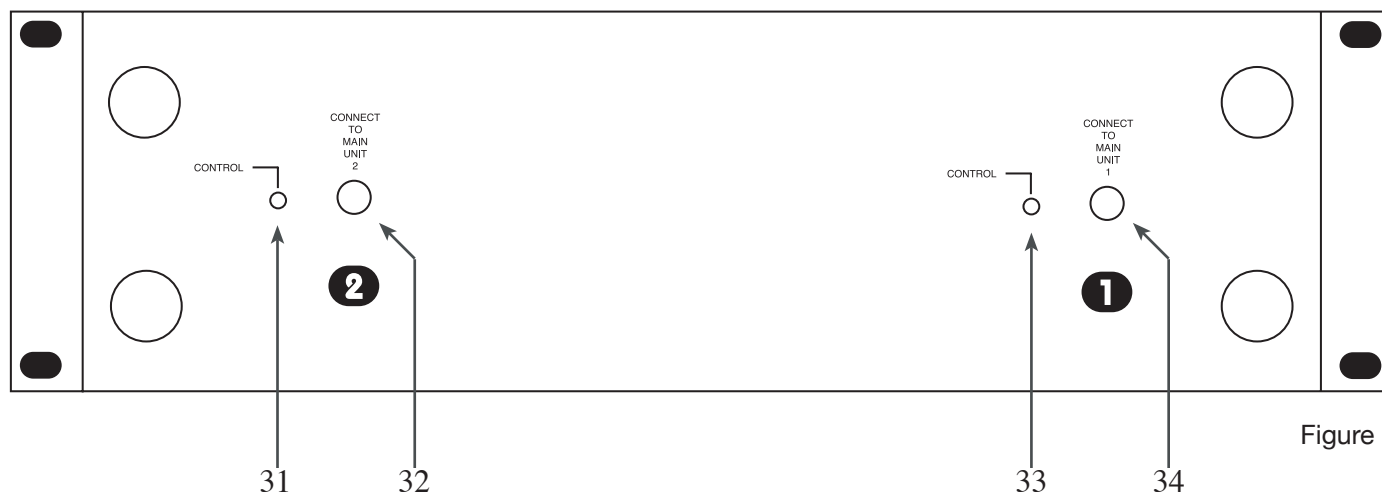

Figure 4
- A. RELOOP; If a Loop has been made (see setting a Seamless Loop on page 21), but the unit is not actively in Loop mode (a loop is not playing), pressing the RELOOP/BOP BUTTON will instantly reactivate Loop mode. To exit the Loop , press the OUT/EXIT BUTTON (28). LOOP (65) and RELOOP (64) will display in the LCD (14) when the Reloop function is available.
B. REMOTE CONTROL - REAR (FIGURE 4)